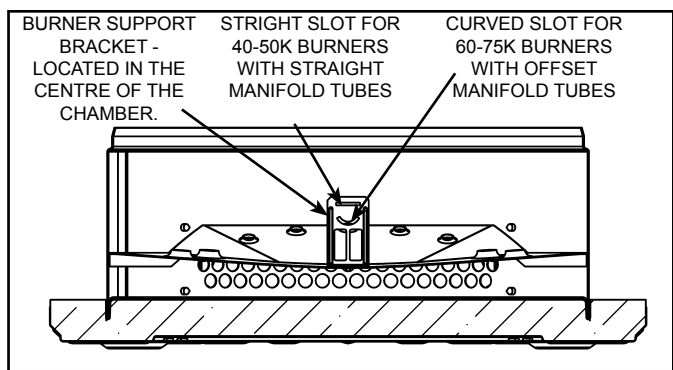

Figure 12
1. Insert the manifold/burner assembly in the burner chamber compartment, making sure that the tip of burner manifold tab engages in the proper slot of the bracket (see Figure 12). The tip end of the burner manifold **MUST** be placed in the slotted portion under the condensation pan to obtain proper installation (see Figure 12).